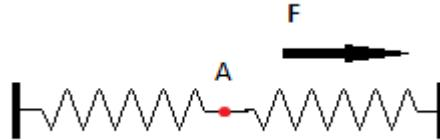

Figure 4: Springs in series
2) Let us start by analysing what happens when the insole experiences a shear force F along its longitudinal axis. The effect of this force on the two springs attached to plate 1 in Fig. 1 is shown in Fig. 4 below (where the plate, being a rigid object, has been removed for clarity).